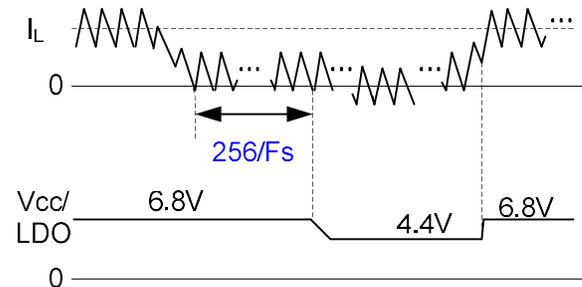

Figure 16: Time Diagram for Smart LDO
The smart LDO selects its output voltage according to the load condition by sensing the inductor current (IL). At light load condition, the inductor current can fall below zero as shown in Figure 16. A zero crossing comparator is used to detect when the inductor current falls below zero at the LDrv Falling Edge. If the comparator detects zero crossing events for 256 consecutive switching cycles, the smart LDO reduces its output to 4.4V. The LDO voltage will remain low until a zero crossing is not detected. Once a zero crossing is not detected, the counter is reset and LDO voltage returns to 6.8V. Figure 16 shows the timing diagram. Whenever the device turns on, LDO always